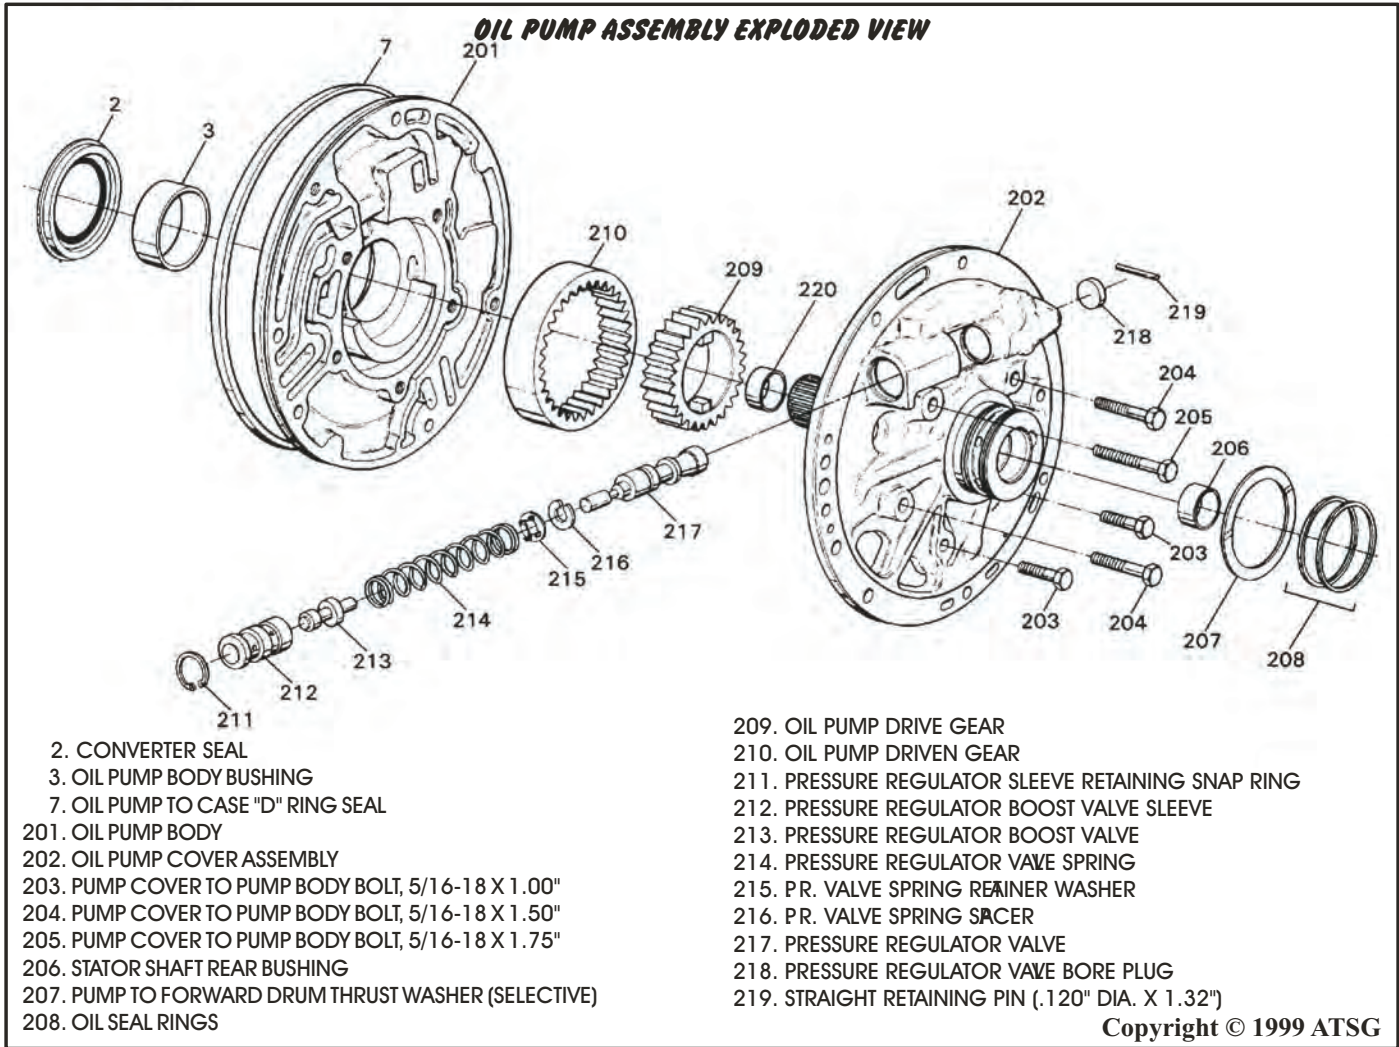

Figure 94
1. Disassemble the oil pump by removing the five pump cover to pump body bolts, as shown in Figure 94.
3. Remove the inner and outer oil pump gears from the pump body (See Figure 94).
4. Remove and discard the two oil seal rings, as shown in Figure 94.
5. Remove and discard the converter helix seal using a seal remover tool (See Figure 94).
6. Remove the pressure regulator retaining snap ring, as shown in Figure 94.
11. Remove both pump gears and install new pump body bushing as necessary (See Figure 94).